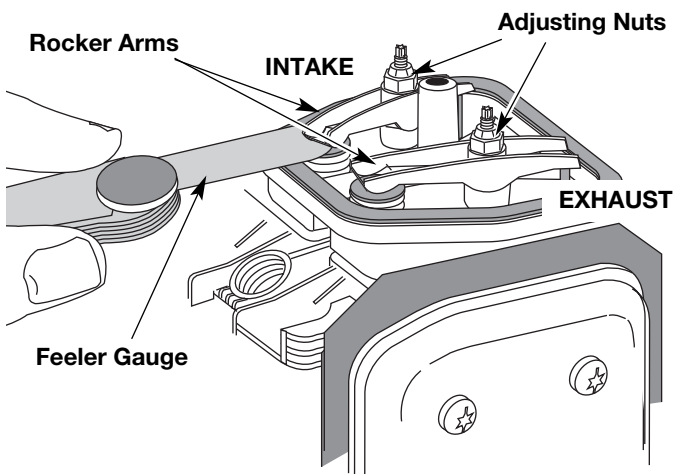

Fig. 43
9. Slide the feeler gauge between the rocker arm and the valve return spring. Measure the clearance between the valve stem and rocker arm (Fig. 43). Measure both the intake and exhaust valves.
The recommended clearance for both intake and exhaust is .003 – .006 in. (.076 – 0.152 mm). Use a standard automotive .005 in. (0.127 mm) feeler gauge. The feeler gauge should slide between the rocker arm and valve stem with a slight amount of resistance, without binding. See Figures 43 and 44.